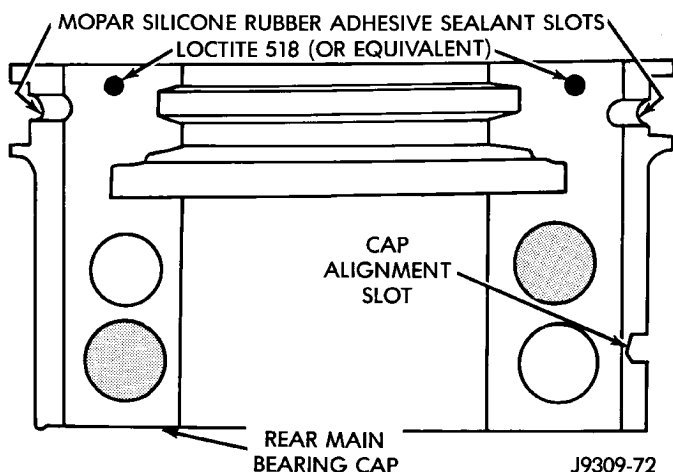

Fig. 45 Sealant Application to Bearing Cap
- (1) Clean the cylinder block rear cap mating surface. Make sure the seal groove is free of debris.
- (2) Lightly oil the new upper seal lips with engine oil.
- (3) Install the new upper rear bearing oil seal with the white paint facing towards the rear of the engine.
- (4) Position the crankshaft into the cylinder block.
- (5) Lightly oil the new lower seal lips with engine oil.
- (6) Install the new lower rear bearing oil seal into the bearing cap with the white paint facing towards the rear of the engine.
- (7) Apply 5 mm (0.20 in) drop of Loctite 518, or equivalent, on each side of the rear main bearing cap (Fig. 45). DO NOT over apply sealant or allow the sealant to contact the rubber seal. Assemble bearing cap to cylinder block immediately after sealant application.
(4) Install the new lower rear bearing oil seal into the bearing cap with the white paint facing towards the rear of the engine.
(5) Apply 5 mm (0.20 in) drop of Loctite 518, or equivalent, on each side of the rear main bearing cap (Fig. 45). DO NOT over apply sealant or allow the sealant to contact the rubber seal. Assemble bearing cap to cylinder block immediately after sealant application. Be sure the white paint faces toward the rear of the engine.
(6) To align the bearing cap, use cap slot, alignment dowel and cap bolts. DO NOT remove excess material after assembly. DO NOT strike rear cap more than 2 times for proper engagement.
(7) Install the rear main bearing cap with cleaned and oiled cap bolts. Alternately tighten ALL cap bolts to 115 N·m (85 ft. lbs.) torque.
(8) Install oil pump.
(1) Clean the rear main cap mating surfaces including the oil pan gasket groove.
(2) Carefully install a new upper seal (refer to Upper Seal Replacement - Crankshaft Installed procedure above).
(3) Lightly oil the new lower seal lips with engine oil.
(4) Install a new lower seal in bearing cap with the white paint facing the rear of engine.
(5) Apply 5 mm (0.20 in) drop of Loctite 518, or equivalent, on each side of the rear main bearing cap (Fig. 45). DO NOT over apply sealant or allow the sealant to contact the rubber seal. Assemble bearing cap to cylinder block immediately after sealant application.
(7) Install the rear main bearing cap with cleaned and oiled cap bolts. Alternately tighten the cap bolts to 115 N·m (85 ft. lbs.) torque.